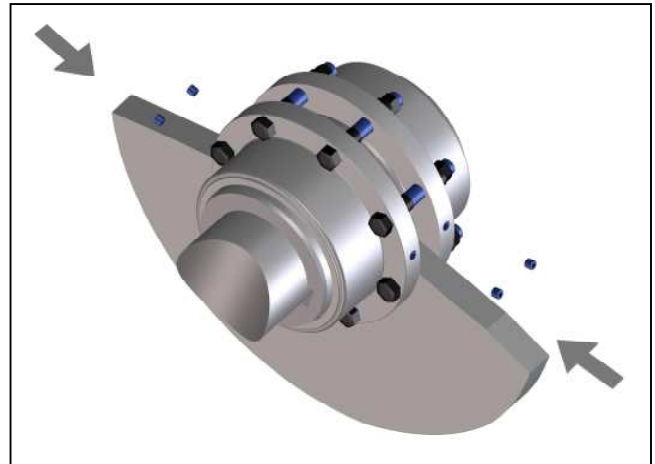

Fig. 12
- Remove the screw plugs from both housing halves (Fig. 12).
- Bring the opposing filling openings in the horizontal line and fill in lubricant, e.g. by using a grease gun **in each coupling half**, until it comes out at the opposed bore (Fig. 12). See tables 8 and 9 regarding lubricant type and quantity.